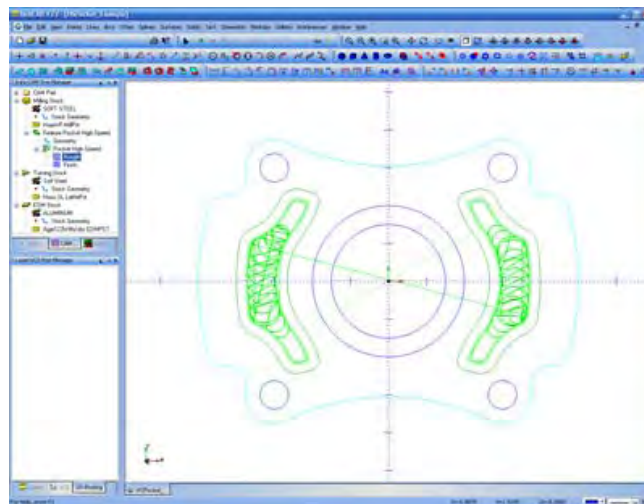

figure 12.1
12. Recompute the tool path by right clicking **Pocket High Speed** and clicking **Compute**. After the calculation has finished, click on **Rough** again to highlight the roughing tool path. Notice that now the toolpath enters the corners and machines the entire pocket (figure 12.1).